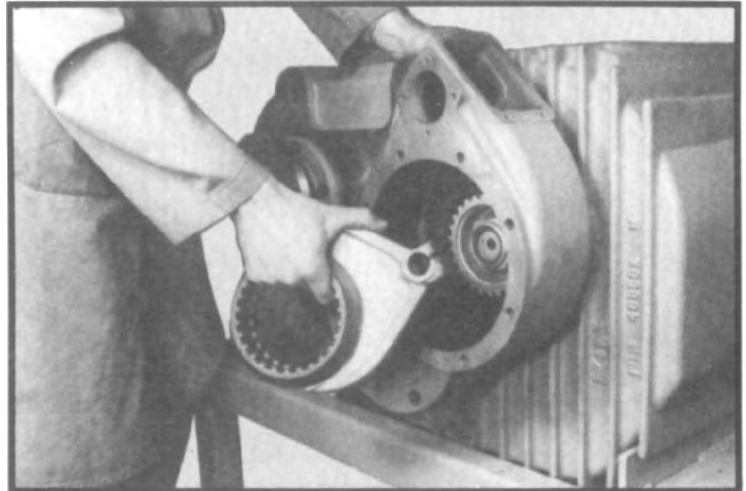

Fig. 175
2. Slide clutch collar onto shift fork and install the two parts together into the PTO/declutch housing, sliding the clutch collar over the declutch gear. The tapped holes in the shift fork must face toward indicator switch position. (See fig. 175)